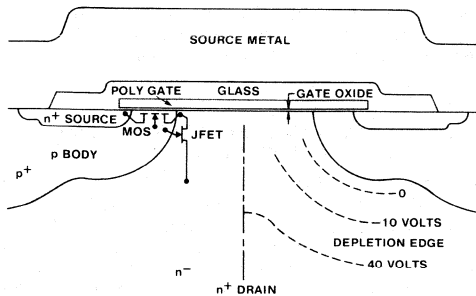
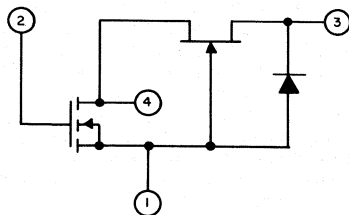

Fig. 6 - Cross section of power MOSFET.
Fig. 7 - Schematic representation of the cross section of Fig. 6.
If we are to understand the differences and similarities of the $L^2\text{FET}$ relative to the conventional power MOSFET, the conventional power MOSFET must first be understood. Fig. 6 shows a properly proportioned cross-sectional view of the power MOSFET.
When the drain voltage is very low and the gate is forward biased, an accumulation layer exists for the n^- region beneath the gate. This layer may be thought of as serving the function of the drain for the lateral MOS. In addition, it serves as a source for a vertical depletion-mode JFET. The gate of the JFET is formed by the body diffusion, particularly in the neck region. The JFET drain is the n^+ region usually thought of as being the MOSFET drain. This situation is shown in Fig. 6, where the cross-sectional view of the MOSFET is shown. The lateral MOS and the vertical JFET are schematically implied by the left half of Fig. 6. The right half indicates the edge of the depletion width for several drain voltages. Note how the JFET pinches off, such that increased drain voltage is supported predominately by the JFET. This structure is schematically represented as shown in Fig. 7. Note that the third-quadrant diode is caused by the p-n junction associated with the gate and drain characteristic (common to all JFETs). A parasitic n-p-n transistor is not shown, nor is it discussed in this Note. Voltage node (4) is within the device, and is not precisely a single node, as represented.
The equivalent circuit of Fig. 7 contains four voltage nodes. Therefore, six capacitors will exist to couple these nodes. The switching waveforms are determined by these capacitors and the small-signal equivalent circuit of the MOS and the JFET. Of course, the MOS and JFET small-signal equivalent circuits are nonlinear functions of voltage and current and invariant with frequency. Similarly, the capacitors are nonlinear with voltage and current.
When current does flow, node (4) of Fig. 7 is a low-impedance node due to the source-follower characteristic of the JFET. Similarly, nodes (1) and (3) are generally low impedance nodes by virtue of the ground reference and the load resistance. Therefore, capacitive currents will usually be significant only to the input node, (2). Capacitors C_{12} , C_{23} , and C_{24} are examined below over most of the switching regime when current is flowing.
When all of the die except the actual MOSFET cells are ignored, Fig. 6 shows that the gate-to-source capacitance (C_{12}) is that from the poly gate upward through the thick oxide to the source metal. In addition, there is a contribution from the poly gate to the n^+ source through the thin gate oxide. Additionally a fringing capacitance exists at the edge of the polysil gate. These components of C_{12} are invariant with voltage and current. There is a fourth component from the poly gate to a region about half way along the MOS channel through the gate oxide. This component is actually distributed, and varies somewhat with current and voltage.
Since C₂₃ is still zero, all gate current must flow from C₂₄. Assuming that the gate voltage is plateaued and that the JFET is still heavily forward biased, node 4 of Fig. 7 must ramp at a linear rate. Therefore, the JFET must also ramp at this same rate.